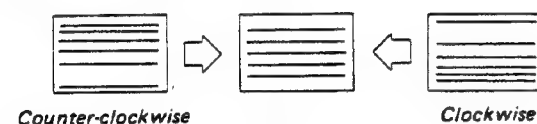

Fig. 28-2
3. Adjust the balance of V lineality with V.LB (RV9) on the DA board as shown in Fig. 28-2.